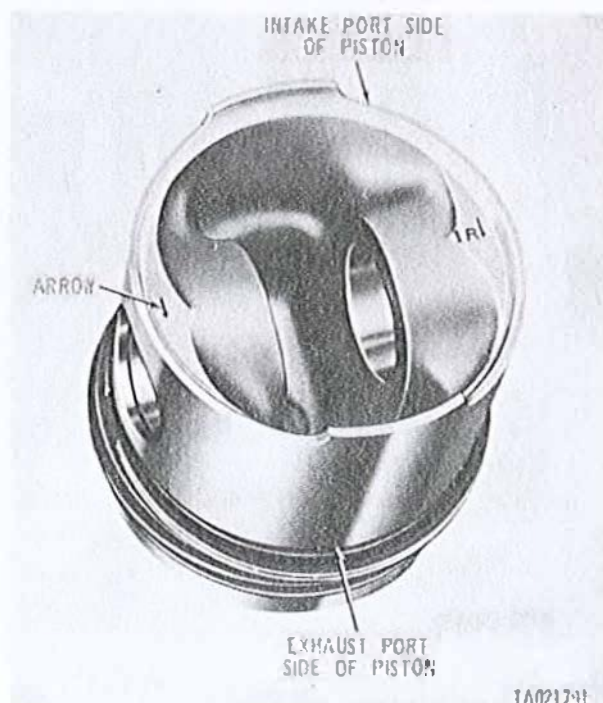

Figure 3-317. Piston installation position marks.
a. The pistons are marked for identification as shown in figure 3-317 to aid in installing the pistons in their proper position. The piston boss is stamped with an arrow and the cylinder location (1R) to identify the cylinder from which the piston was removed and to assure piston will be returned to its original cylinder. The arrows on the piston pin bosses are pointed up, or to the exhaust outlet port. Cylinders are stamped with position markings at the intake valve side (bottom) of valve rocker arm cover flange. Markings of any piston or cylinders must be renewed if position marks and/or arrows are not entirely legible. Replacement piston must be marked to the corresponding cylinder it is to be used with. Always keep piston pin with its respective piston.
d. Install piston and rings (fig. 3-318) in cylinder assembly using compressor and gage 10882888. The piston position number (fig. 3-317) must always correspond to the cylinder number marked on intake valve side of valve rocker arm cover flange. The arrow on the piston boss must be directed toward the exhaust port outlet. Guide piston and rings into cylinder until all piston rings